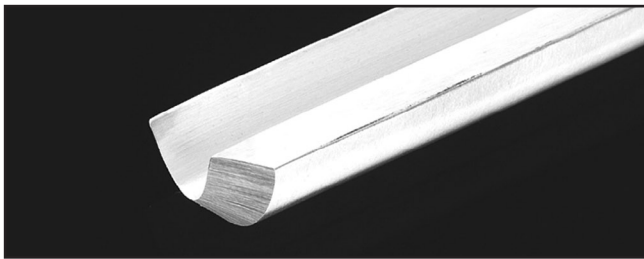

Figure 19. Gouge.
- **Gouges:** Mainly used for rough cutting, detail cutting, and cove profiles. The rough gouge is a hollow, double-ground tool with a round nose, and the detail gouge is a hollow, double-ground tool with either a round or pointed nose. **Figure 19** shows an example of a gouge.